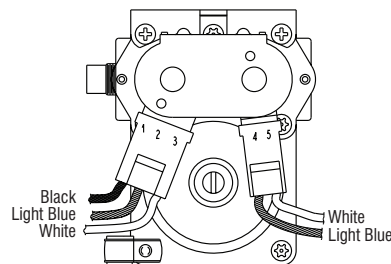

Figure 11 - Measuring gas valve resistance.
3. Use an ohmmeter to determine if a gas valve coil has malfunctioned. Remove harness plugs. Measure resistance across the terminals (see figure 11). Readings should match those shown in the following chart; if not, replace coils.